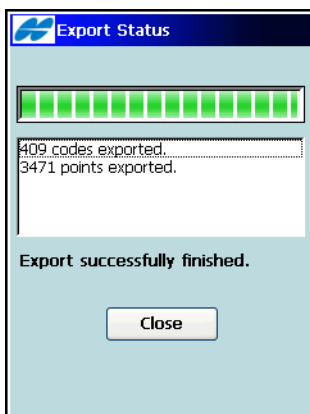

Figure 4-21. Export Status
- **Finish** – press to start the export process (Figure 4-21 on page 4-19).
- **Finish** – opens the *Export Status* screen and starts the export process. (See Figure 4-21 on page 4-19.)
- **Finish** – opens the *Export Status* screen and starts the Export process (see Figure 4-21.)
On the **Export Status** screen (Figure 4-21), tap the **Close** button to return to main screen.
If the *Text Custom Report* format is selected, the **To File** screen displays the **Code Style** button (Figure 4-21).